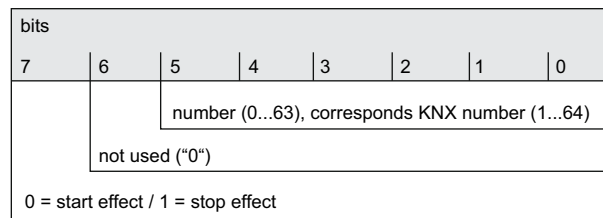

Figure 54: Structure of the object value for the effect extension
The structure of the telegram value for the effect extension is orientated to the KNX DPT 18.001, which is also used in the scene extension (Figure 54).
- ❗ It should be noted that the object value of the extension input is always "1" less than the configured KNX number, in accordance with KNX DPT 18.001 (Figure 54).